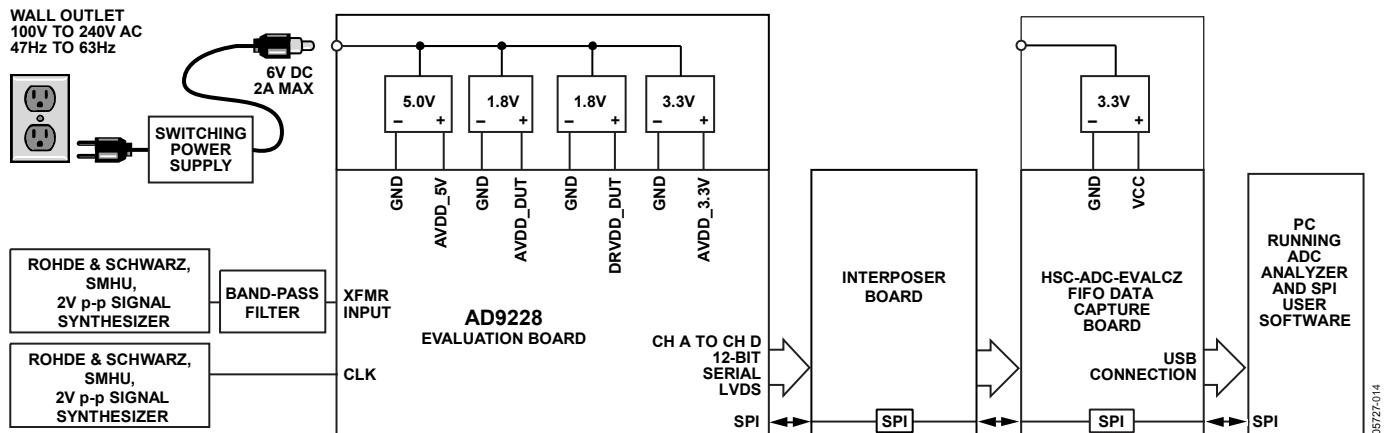
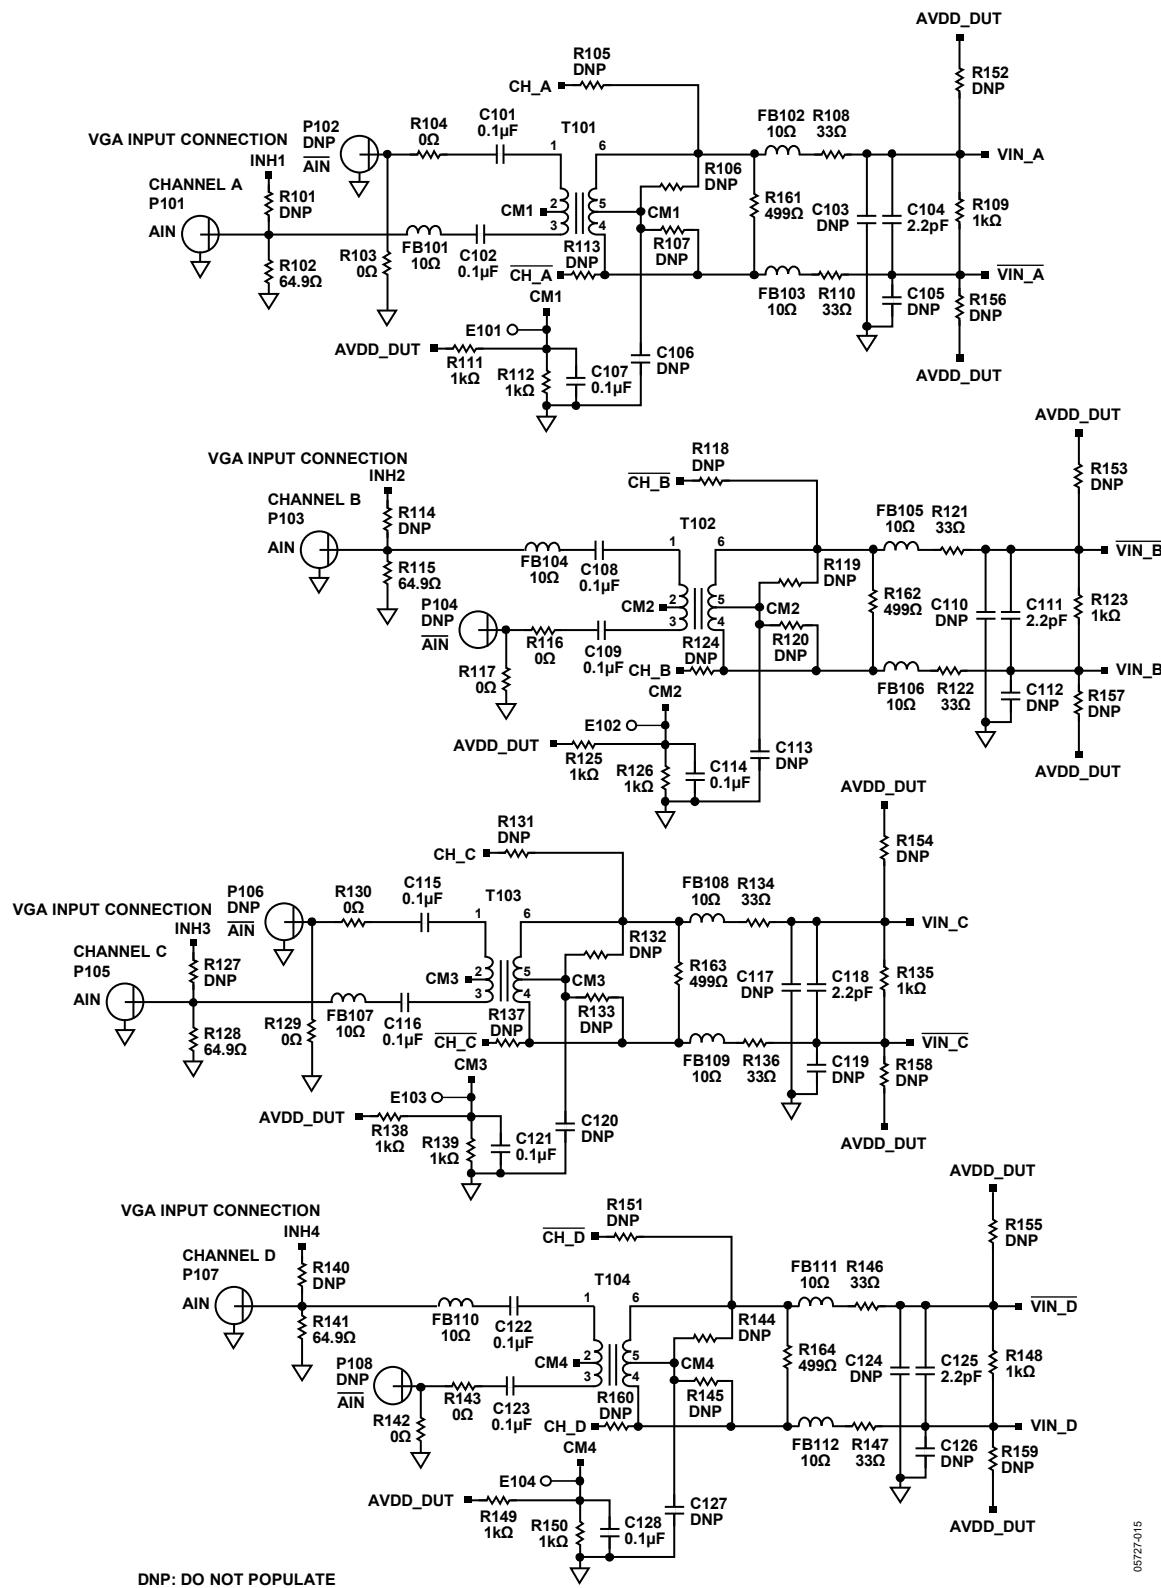
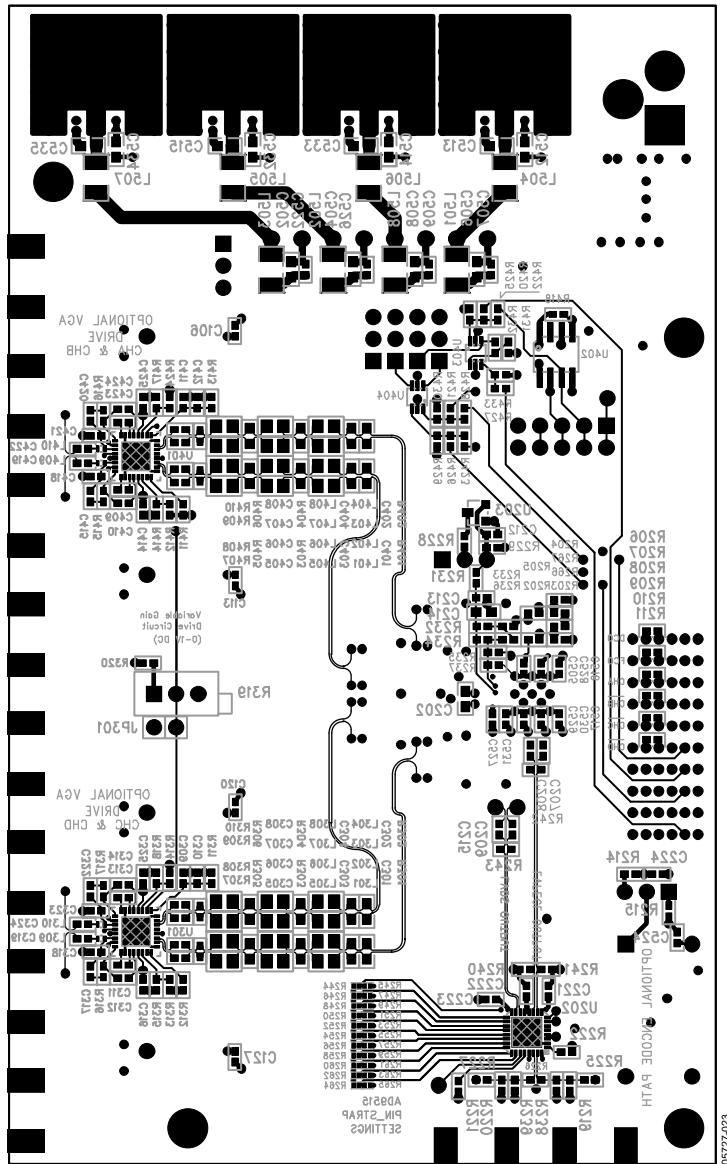

Figure 71. Evaluation Board Connection
Figure 73. Evaluation Board Schematic, DUT Analog Inputs
Figure 81. Evaluation Board Layout, Secondary Side (Mirrored Image)
The AD9228 evaluation board provides all of the support circuitry required to operate the ADC in its various modes and configurations. The converter can be driven differentially using a transformer (default) or an AD8332 driver. The ADC can also be driven in a single-ended fashion. Separate power pins are provided to isolate the DUT from the drive circuitry of the AD8332. Each input configuration can be selected by changing the connection of various jumpers (see Figure 73 to Figure 77). Figure 71 shows the typical bench characterization setup used to evaluate the ac performance of the AD9228. It is critical that the signal sources used for the analog input and clock have very low phase noise (<1 ps rms jitter) to realize the optimum performance of the converter. Proper filtering of the analog input signal to remove harmonics and lower the integrated or broadband noise at the input is also necessary to achieve the specified noise performance.
See Figure 73 to Figure 81 for the complete schematics and layout diagrams demonstrating the routing and grounding techniques that must be applied at the system level.
- **D + x, D - x:** If an alternative data capture method to the setup shown in Figure 73 is used, optional receiver terminations, R206 to R211, can be installed next to the high speed backplane connector.